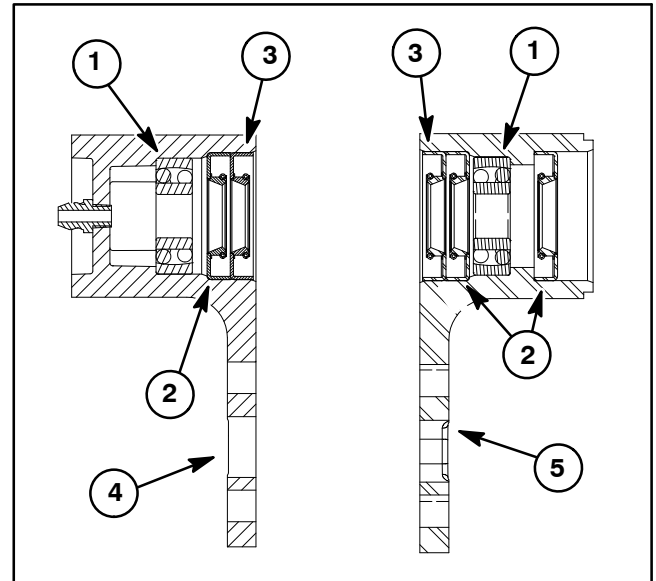

Figure 56
2. If seals or bearings were removed from brush bearing housings, install new components noting proper orientation as shown in Figure 56.
1. If seals or bearings were removed from brush bearing housings, install new components noting proper orientation as shown in Figure 56.
C. Install grease seals so that seal lips are positioned toward the brush location as shown in Fig. 56. Press seals into housing so that seal contacts bore shoulder.